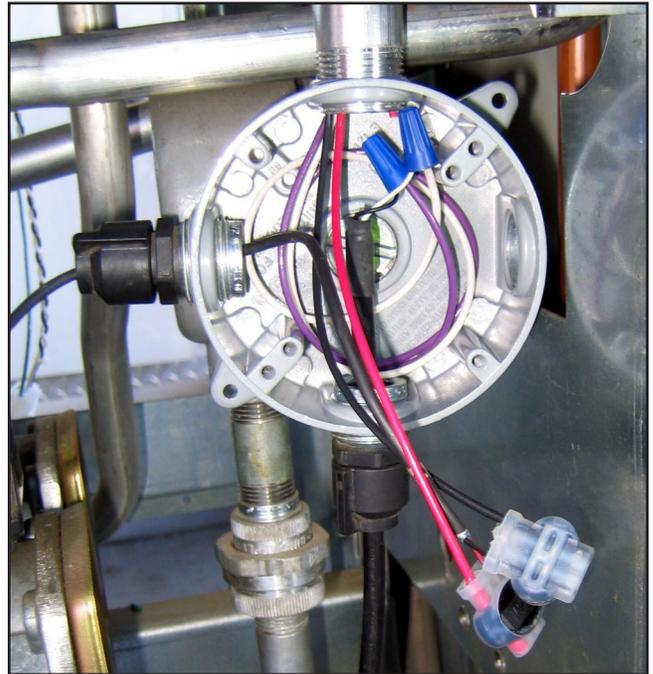

Figure 9: VFM and VPS Spices
- White wire of potted nipple to White wire of TS-VPS cable (Refer to Figure 9).